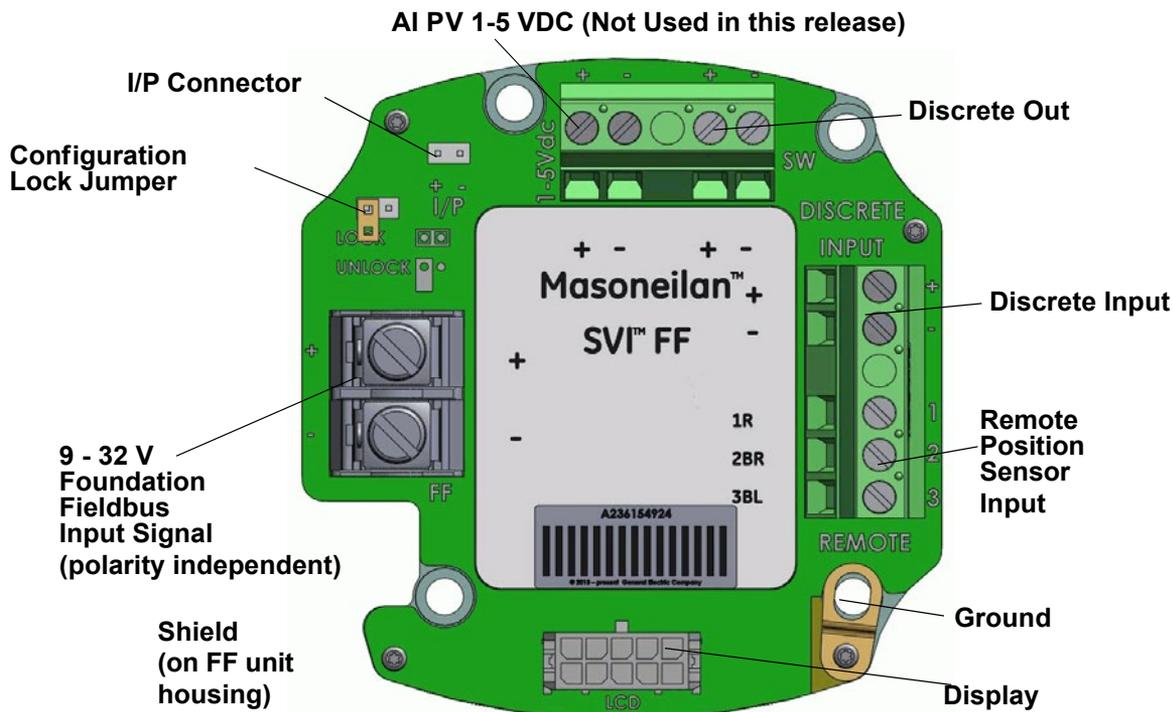

Figure 33 - Connections to Electronics Module (via Terminal Board)
2. Locate the correct terminal block on the terminal board (see Figure 33).